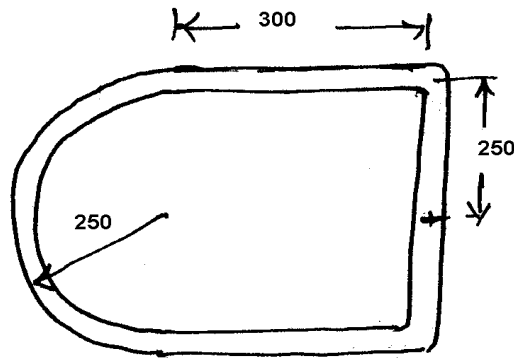

Figure 3:
5. Uniform thickness $t=5\text{mm}$ Determine the Shear Centre for an air craft box beam shown in Figure 3. [16]